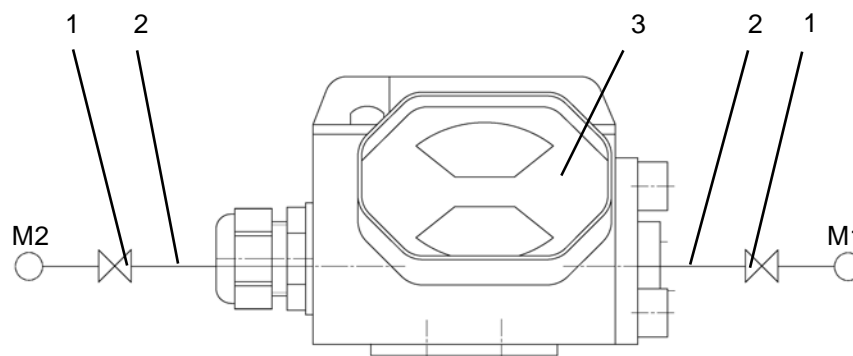

Fig. 5-1 Installation diagram
- ▶ Connect the control line to the differential pressure indicator as per the Fig. 5-1 "Installation diagram". The housing must not be twisted or damaged in the process. Use suitable sealing material (e.g. Teflon tape or liquid sealing agent).